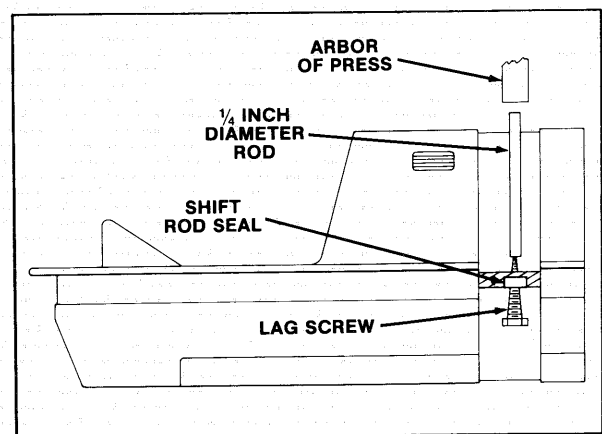

Figure 3—Removing Shift Rod Seal
- D. Remove shift rod seal by threading a 5/16” diameter lag screw in shift rod seal. Insert 1/4” diameter rod from opposite side and press both seal and lag screw out of seal bore as shown in figure 3.